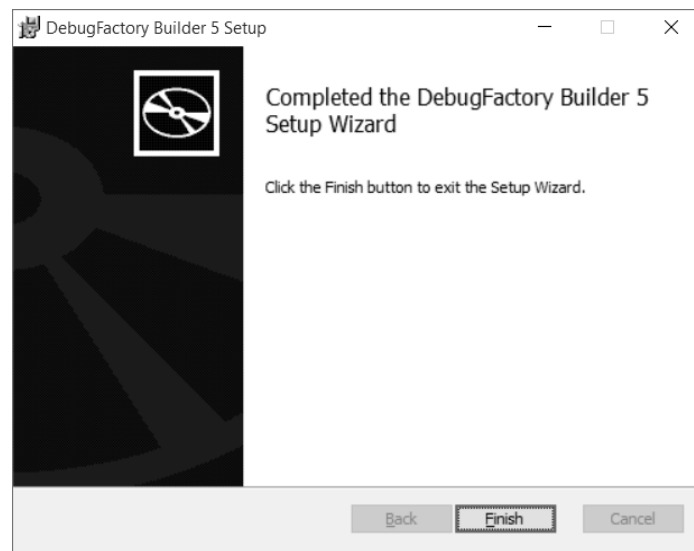

Figure 1.1.7 Setup Completed
7. The dialog shown in Figure 1.1.7 appears. Click <Finish>.